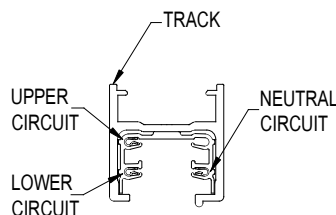

FIG. 5
B. ADAPTER: (ADVENT TRACK), FIG.5